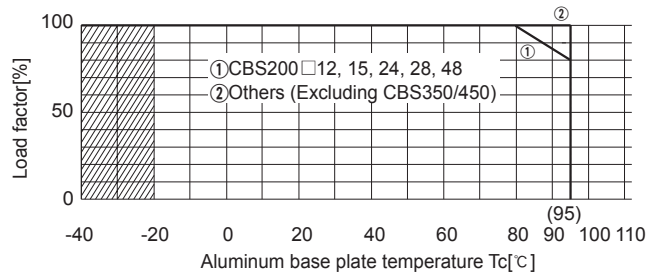

Fig.6.6 Derating Curve Characteristics
■Derating curve characteristics with respect to aluminum base plate temperature are shown in Fig. 6.6. Measure the temperature of the base plate in a location away from direct airflow (A). Note that operation within the hatched areas will cause a significant level of ripple and ripple noise.